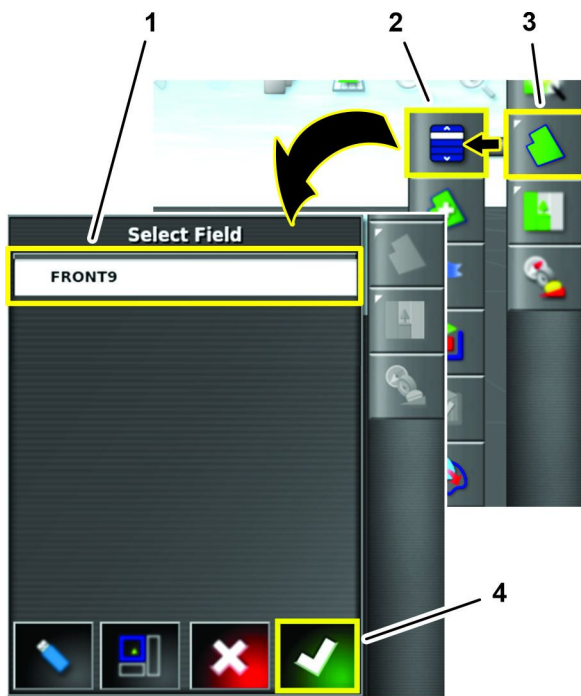

Figure 72
2. Press the FIELD MENU icon and the SELECT FIELD icon (Figure 72).
- Press the FIELD icon into which you will merge the boundaries from machine #2, and press the confirm icon (Figure 72).